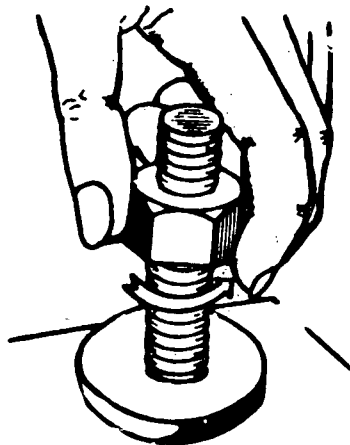

Fig. 2
- b) Turn the nut until it comes off (Fig. 2),